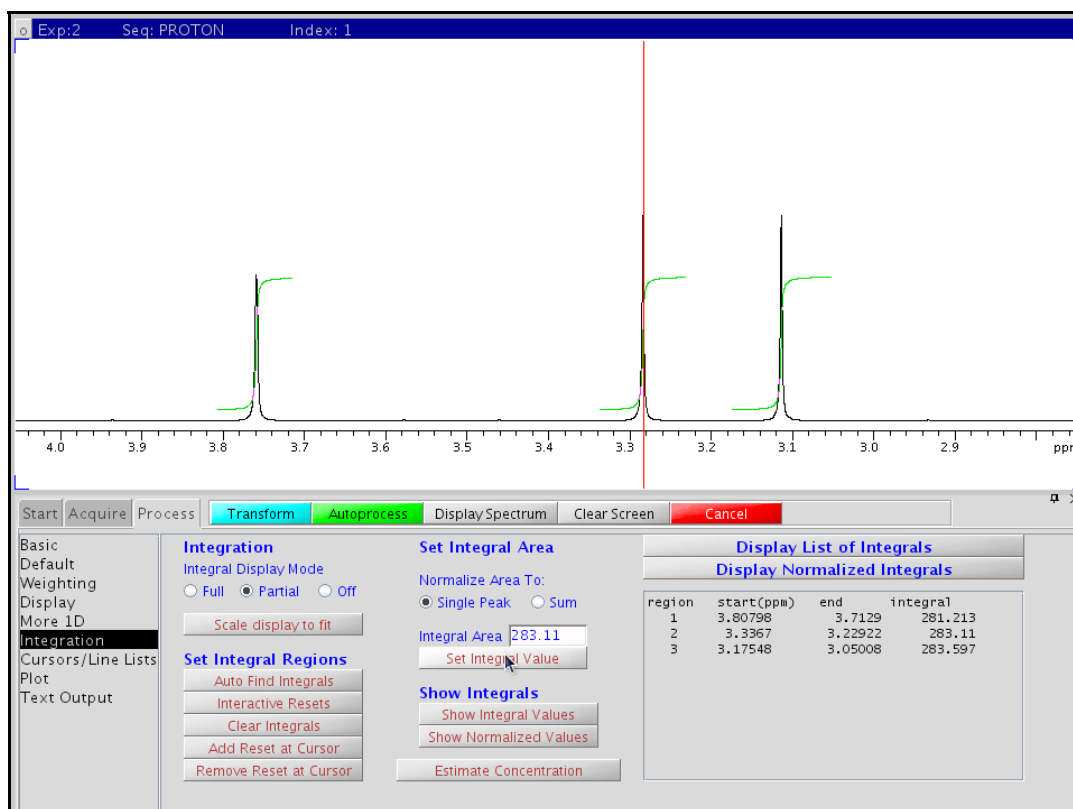

Figure 36
4. Multiply the concentration of the calibration standard by the number of protons represented under the resonance chosen in step 3, then enter that result into the Integral Area field. For example, if the standard sample was created at a concentration of 94.36 mM and the resonance used for calibration was a methyl group (*i.e.*, 3 protons), the number entered into the Integral Area field would be 283.11 (*i.e.*, $94.36 \times 3 = 283.11$; see Figure 36). Select the Set Integral Region button.
Setting the integral value for a calibration standard of caffeine dissolved at a concentration of 94.36 mM, see Figure 36. The integral region for the methyl signal at approximately 3.28 ppm has been selected and a value of 283.11 has been entered into the Integral Area field.